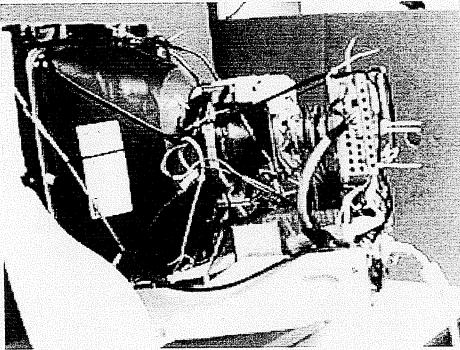

Fig. 3.4
- Step 4: Remove back cover,then see left side view as shown in Fig.3.4.